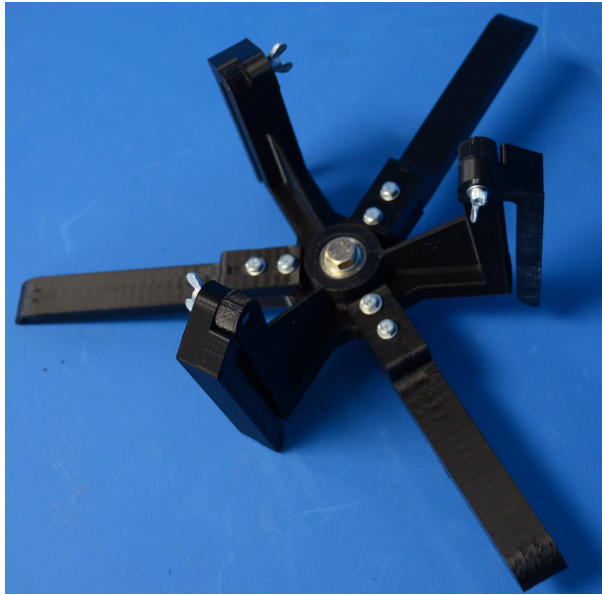
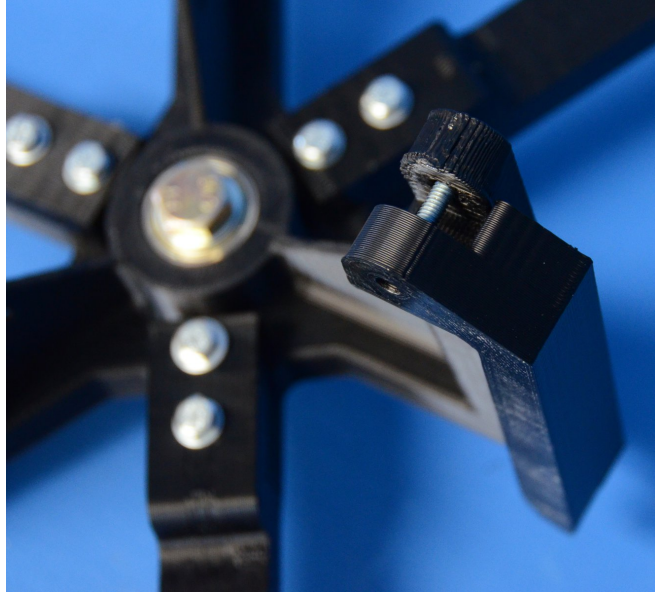

Figure 2.6: Spool
Figure 2.7: Remove spool wingnuts
10. Locate the plastic filament spool (Fig. 2.6, page 20). Locate and loosen the three wing nuts on the upper arms. Completely loosen and remove the three wingnuts and washers. Slide each of the three arms off of the screws (Fig. 2.7, page 21). Turn each arm 90 degrees outwards from the spool until the arm is parallel with the lower arms. Replace the washers and wing nuts and tighten (Fig. 2.8, page 21).
1. Loosen the three wing nuts on the upper arms of the filament spool (Fig. 2.7, page 21).